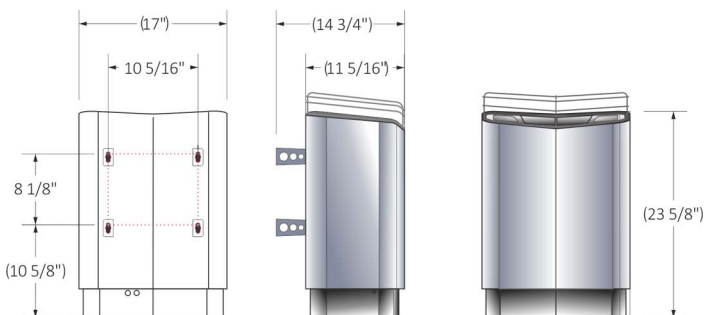
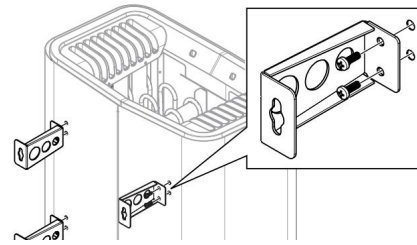

Figure 7. Heater Dimensions
Figure 8. Installing Mounting Brackets
1. From the back of the heater, locate the eight (8) Torx 20 head machine screws (two screws towards each corner on the back of the heater).
2. Remove only two (2) screws from one corner at a time. See Figure 8.
4. Using the same two (2) screws removed previously, attach the bracket to the heater.
6. Using a tape measure, verify the dimensions for the locations of the keyholes and the distance from the keyholes to the bottom edge of the heater. See Figure 7.